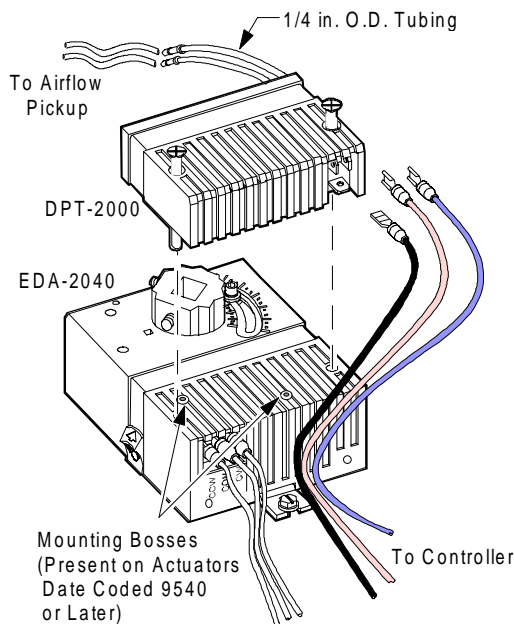

Figure 1: Removing the DPT-2000 from an EDA-2040
2. Loosen screws and remove the DPT-2000, using a No. 2 Phillips screwdriver. (See Figure 1.)
3. Verify if the EDA-2040 housing has mounting bosses (Figure 1).